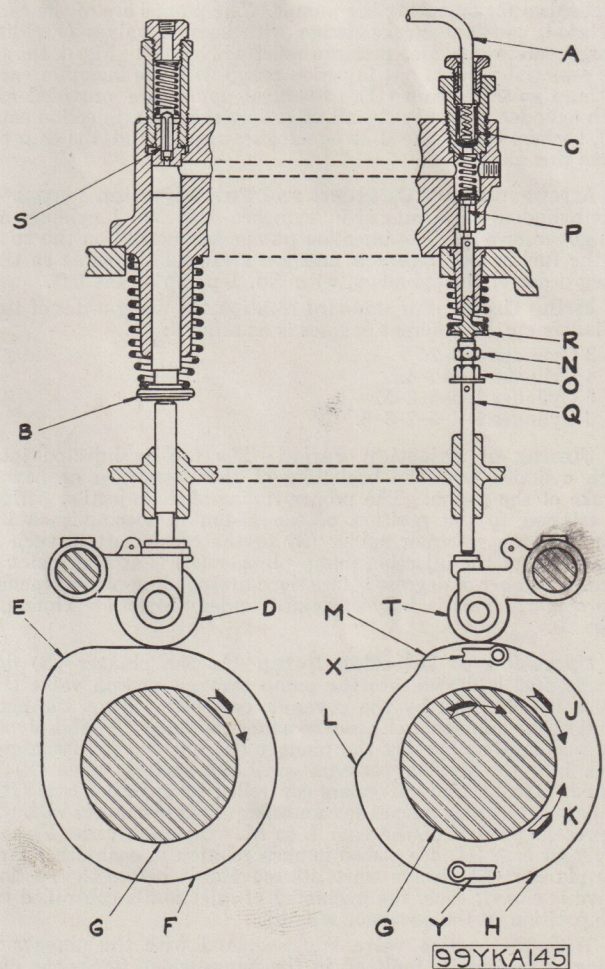

Fig. 1. Injection Pump and Governor Cam Diagram
Index to Diagrams—The following parts are indicated on Figs. 1 and 2 to illustrate the discussion of the fuel injection and governing system.
- (R) Injection pump suction upper push rod stem.
- (S) Relief valve.
- (T) Governor cam roller.
- (U) Governor weight; centrifugal force throws the weight out.
- (V) Pivot of the governor weight.
- (W) Governor spring adjusting screw; tighten to increase the speed and loosen to decrease the speed.
- (X) & (Y) Governor weight to governor cam pull roads.
- (Z) Governor spider, with governor weights, clamped in fixed relation to the crankshaft.
Fuel Injection System—The fuel injection system includes the individual injection pumps, fuel tubes, and differential fuel injection valves for each cylinder, also the driving and control mechanism for operating the pumps. The pumps are of the cam operated, constant stroke design with suction valves (P), discharge valves (C), and pressure relief valves (S). Fig. 1 shows the essential parts of one injection pump with the injection cam (F) and governor cam (H). Identical pumps are provided for each cylinder, but they are all driven by the same injection cam (F), rockers being placed at equal distances around the cam to make this possible.